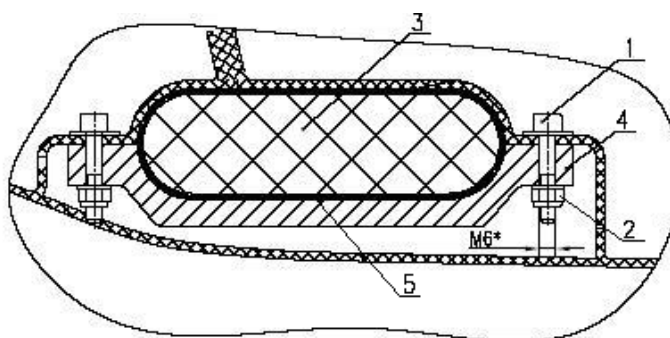
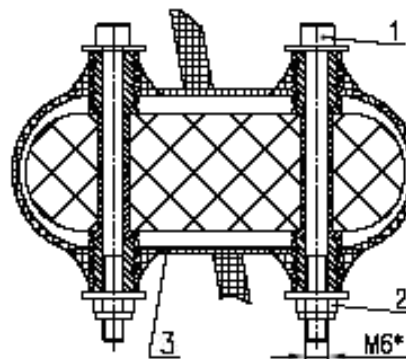

Fig. 6
Fig. 7
4. Detach the landing gear fairing KF 32100020 (Fig. 6, item 1).
5. In order to detach the support KF32100044 (Fig. 7, item 4), unscrew 2 bolts KF32100042 M6 x 33 and 2 self-locking nuts C9996334 (Fig. 7, items 1 & 2).
6. Unscrew 2 bolts KF32100043 M6 x 85 and 2 self-locking nuts C9996334 (Fig. 7, items 1 & 2) at the top ends.
7. Detach the main gear leg (Fig. 6, item 3).
8. Check supports, bolts and gear box (Fig. 7 item 3) for cracks.
1. If necessary replace the C9993111B Perbunan gasoline-proof rubber NBR 80 Gas, 2mm (Fig. 6, item 5) using C9993947N TESAFIX 50m x 0.006m.
2. For mounting bolts KF32100043 (Fig. 7, item 1) and KF32100042 (Fig. 6, item 1) use "Bonding liquid, middle strength Art.No.3247".